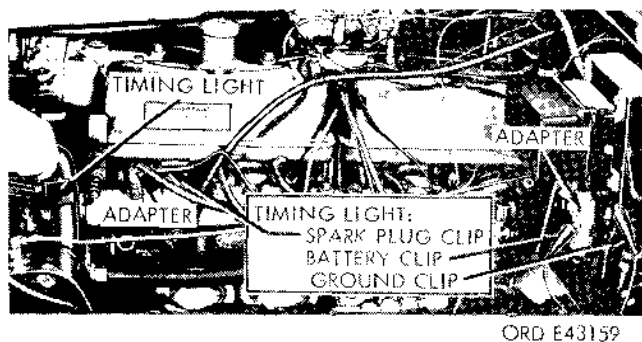

Figure 2-142. Timing light connected to adapters.
a. *General.* The procedure for checking and correcting ignition timing for engines with a sealed ignition system requires special adapters (fig. 2-142) which are part of the electrical connector tool kit.